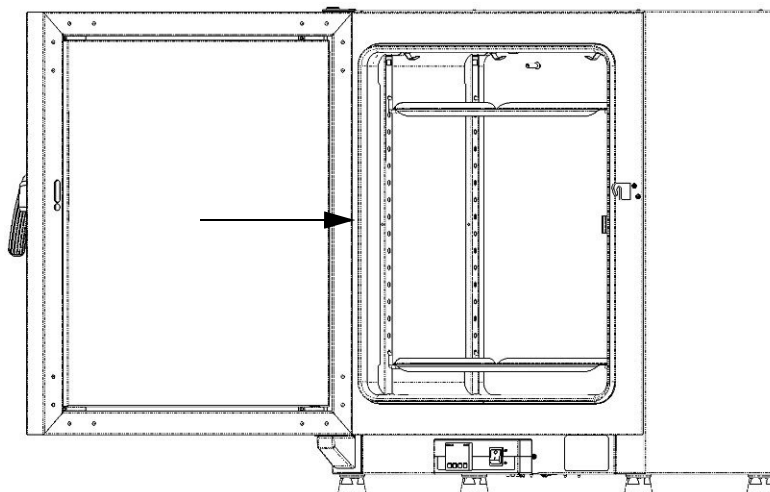

Figure 10-1. Door seal
2. Starting on the hinge side of the door, position the end of the new seal at the location indicated by the arrow in Figure 10-1 above.